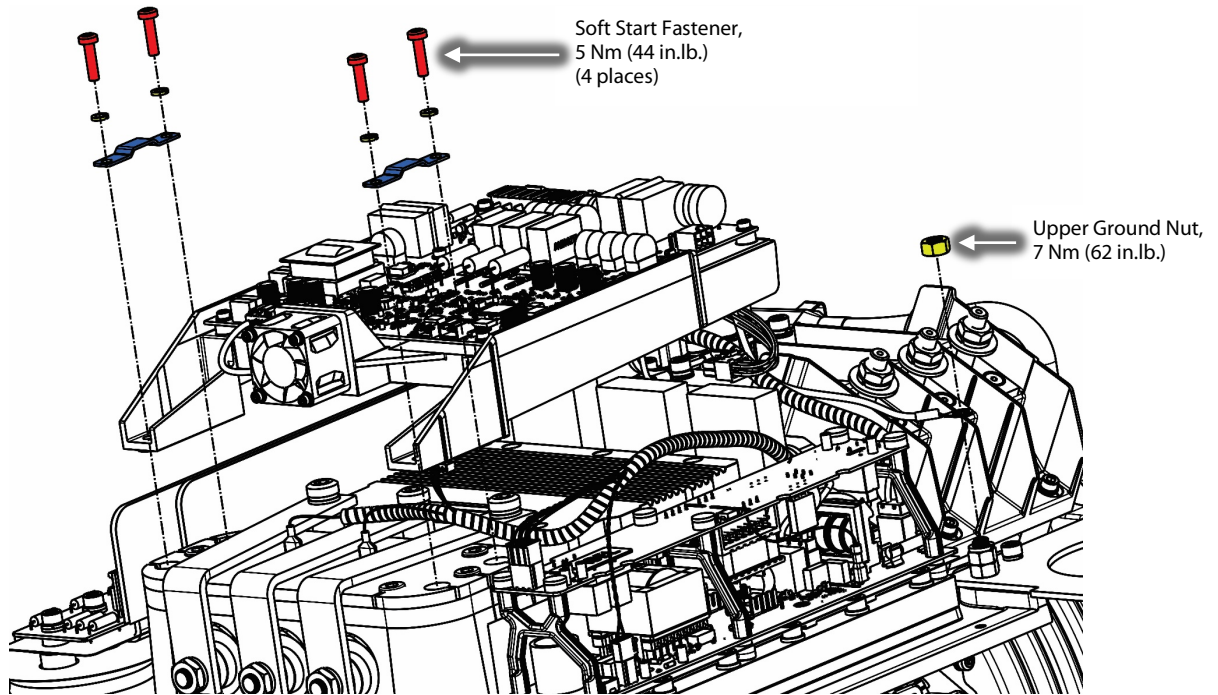

Figure 21 – Soft Start Installation
- g. Once all connectors are installed, install cable tie as shown in Figure 21 – *Backplane Harness Cable Tie*.